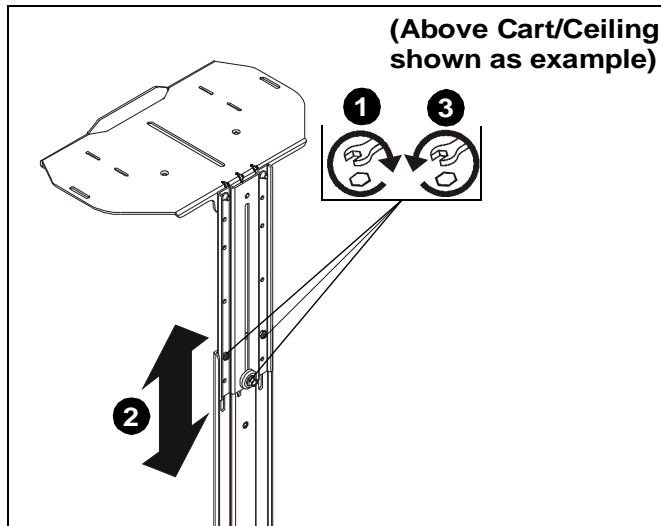

Figure 26
1. Loosen hardware used to attach main bracket (B) to upright bracket (A). (See Figure 26)
2. Adjust shelf height as desired. (See Figure 26)
3. Tighten hardware used to attached main bracket (B) to upright bracket (A). (See Figure 26)